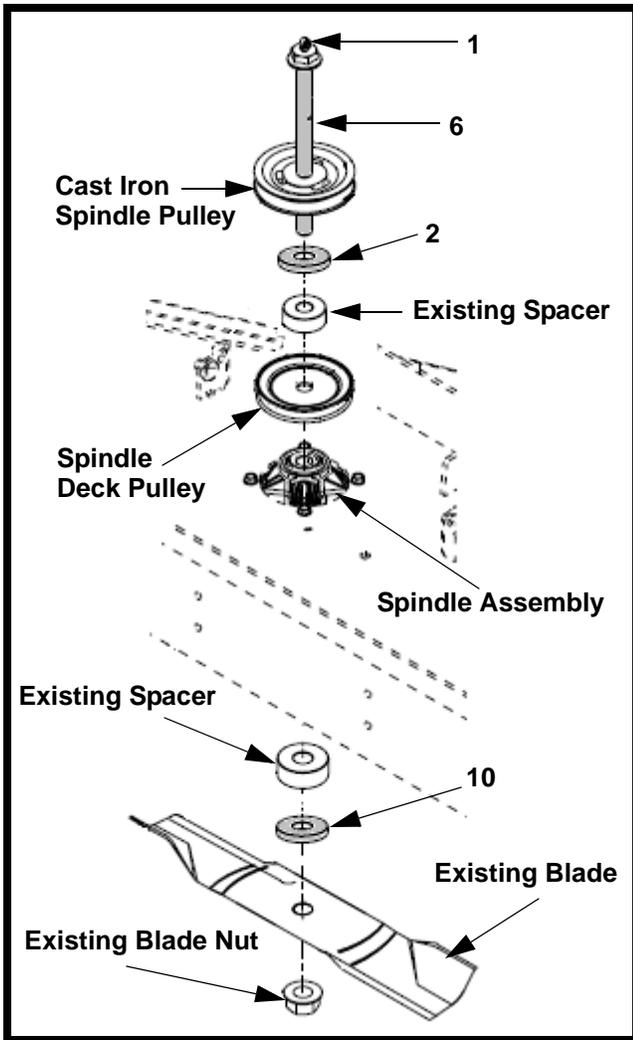

FIGURE 5
17. Install Ref. #1 (00012226) 1/4-28 x .788" 90 degree grease fitting into Ref. #6 (710-05110A) 3/4-16 x 7.7" spindle bolt. See Figure 5.
18. Install the spindle bolt through the cast iron spindle pulley. See Figure 5.
19. Install Ref. #2 (01002564) below the cast iron pulley on the spindle bolt with the existing spacer installed next. See Figure 5.
20. Install the spindle deck pulley next onto the spindle bolt. See Figure 5.
21. Install the blade spindle bolt with all items installed in steps 17 through 20 through the center spindle assembly. See Figure 5.
22. Finish assembling the center spindle assembly from the underside of the deck with the existing blade spacer and one (1) of Ref. #10 (748-3101A) blade